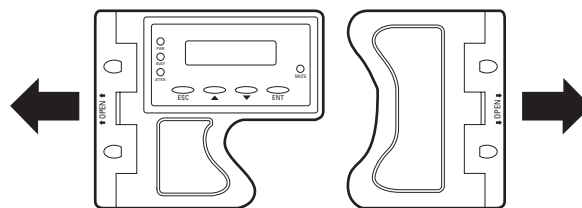

Figure 9. Front Panel Retention Latches
2. Flip the retention latch on the front handle, and then open the handle (refer to Figure 9). This gives you access to the left (1, 5, and 9) and right (4, 8, and 12) drive bays.
6. Return the retention latch to its closed position (refer to Figure 9 on page 15).